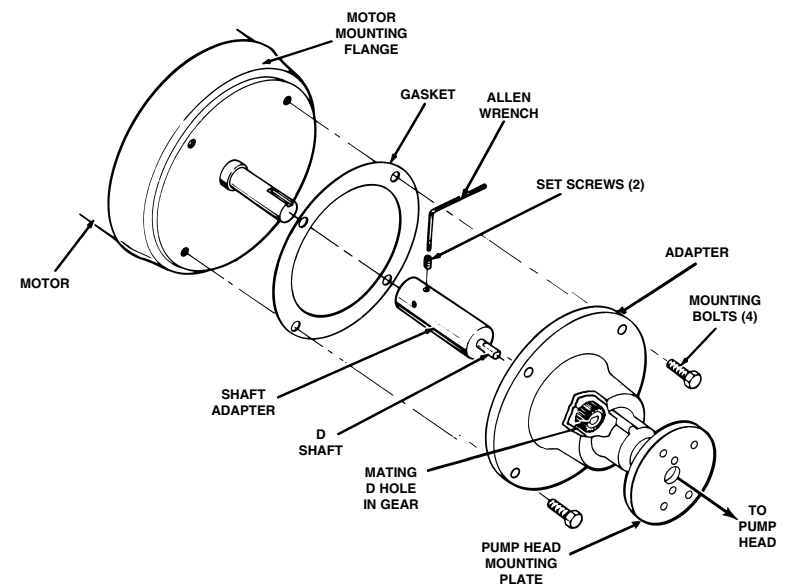

Figure 1: Adapter components aligned with a drive motor and Pump Head.
(1) Mount the Motor Drive
(2) Install the Shaft Adapter
- Figure 1 shows the proper alignment of all components: